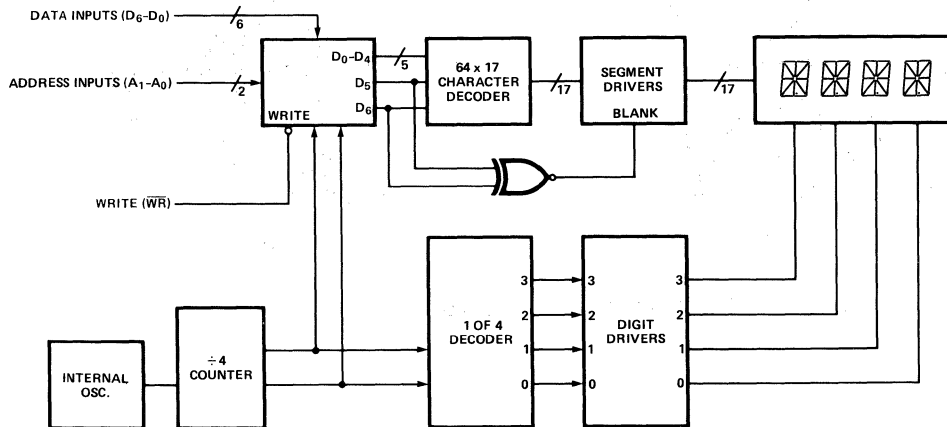

Figure 1. HPDL-1414 Internal Block Diagram.
Figure 1 shows the internal block diagram of the HPDL-1414. It consists of two parts: the display LEDs and the CMOS IC. The CMOS IC consists of a four-word ASCII memory, a 64-word character generator, 17 segment drivers, four digit drivers, and the scanning circuitry necessary to multiplex the four monolithic LED characters. In normal
Figure 4 shows a truth table for the HPDL-2416 display. Setting the chip enables ($\overline{CE}_1, \overline{CE}_2$) to their low state and the cursor select (CU) to its high state will enable data loading. The desired data inputs ($D_6 - D_0$) and address inputs (A_1, A_0) as well as the chip enables ($\overline{CE}_1, \overline{CE}_2$) and cursor select (CU) must be held stable during the write cycle to ensure that the correct data is stored into the display. Valid ASCII data codes are shown in Figure 1. The display accepts standard seven-bit ASCII data. Note that $D_6 \neq D_5$ for the codes shown in Figure 4. If $D_6 = D_5$ during the write cycle, then a blank will be stored in the display. Data can be loaded into the display in any order. Note that when $A_1 = A_0 = 0$, data is stored in the furthest right-hand display location.